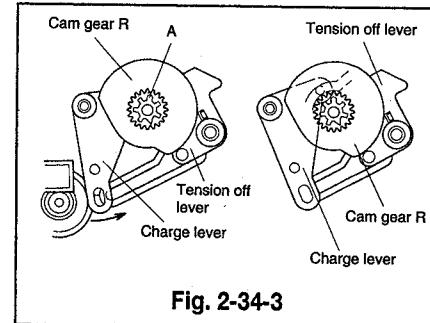
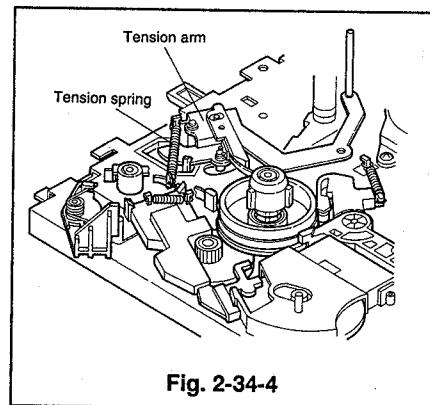

Fig. 2-34-3
Fig. 2-34-4
- ① Remove the cassette housing. (Refer to Para. 2-1 for the installation method.)
- ② Turn the deck the right side up and detach the tension spring. (Refer to Fig. 2-34-4.)
- ③ Remove the charge assembly. (Refer to item ② of Para. 2-18 for the removal method.)
- ④ Remove the reel belt and the pulley belt. (Refer to Para. 2-28 for the removal method.)
- ⑤ Remove the loading motor assembly (which holds the motor holder). (Refer to Para. 2-29 for the removal method.)
- ⑥ Remove the main gear J. (Refer to Para. 2-30 for the removal method.)
- ⑦ Remove the plate J, the roller B, and the cam plate B. (Refer to Para. 2-33 for the removal method.)
- ④ Insert the cam gear R so that part A is on the upside, with the charge lever set fully to the right end. Slowly turn the charge lever in the direction shown by the arrow until it enters the groove in the cam gear R. (Refer to Fig. 2-34-3)
- ⑤ Install the cam plate B, the roller B, and the plate J. (Refer to Para. 2-33 for the installation method.)
- ⑥ Install the main gear J. (Refer to Para. 2-30 for the installation method.)
- ⑦ Install the loading motor assembly (which holds the motor holder). (Refer to Para. 2-29 for the installation method.)
- ⑧ Install the belt pulley and the reel belt. (Refer to Para. 2-28 for the installation method.)
- ⑨ Hook the tension spring in the position shown in Fig. 2-34-4.
- ⑩ Install the charge assembly. (Refer to Item ⑤ of Para. 2-18 for the installation method.)
- ⑪ Install the cassette housing. (Refer to Para. 2-1 about the installation method.)